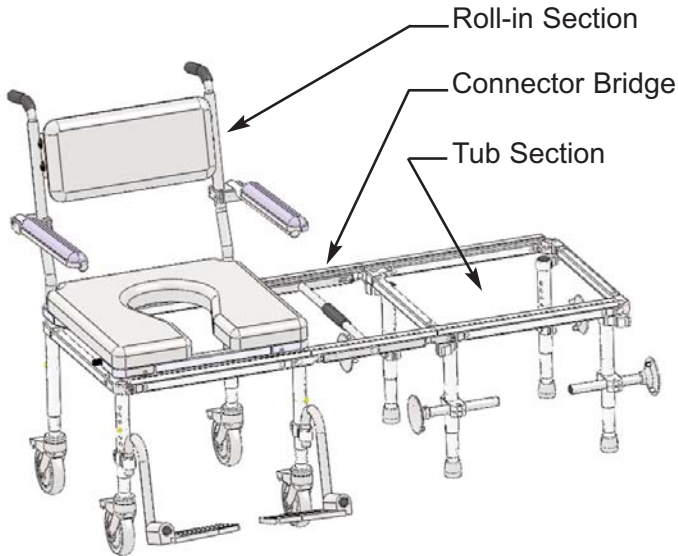

Figure 1
**A** The multiCHAIR 6200 (Refer to Figure 1) is composed of three sections: the roll-in section with offset legs and 5" casters, the connector bridge section, and the tub section which has straight legs and adjusting feet. The chair is shipped standard with the tub section positioned on the user's left side. Unpack all parts from the shipping carton.